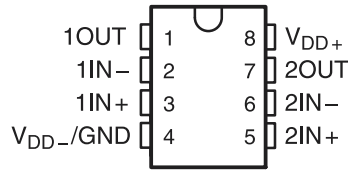

Figure 4-2. Pin Diagram (TSSOP (PW) 8 Package)
Figure 4-2 shows the TLC2272A-Q1 pin diagram for the TSSOP (PW) 8 package. For a detailed description of the device pins please refer to the *Pin Configuration and Functions* section in the TLC2272A-Q1 data sheet.